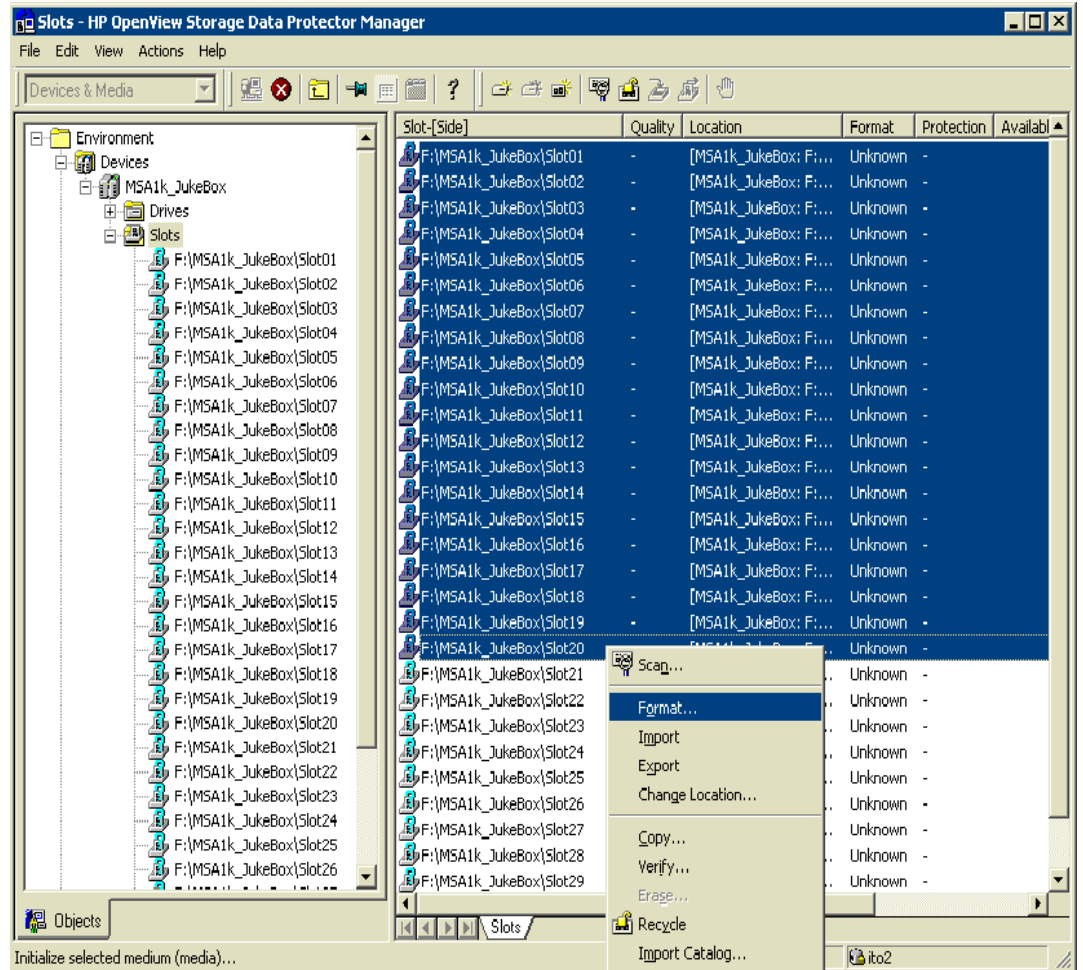

figure 10
3. Select the number of slots you want to format. See figure 10. Although there are 30 slots in this virtual jukebox, only 20 slots are being formatted. Formatting slots is analogous to putting a physical tape into the slot of a physical jukebox library.